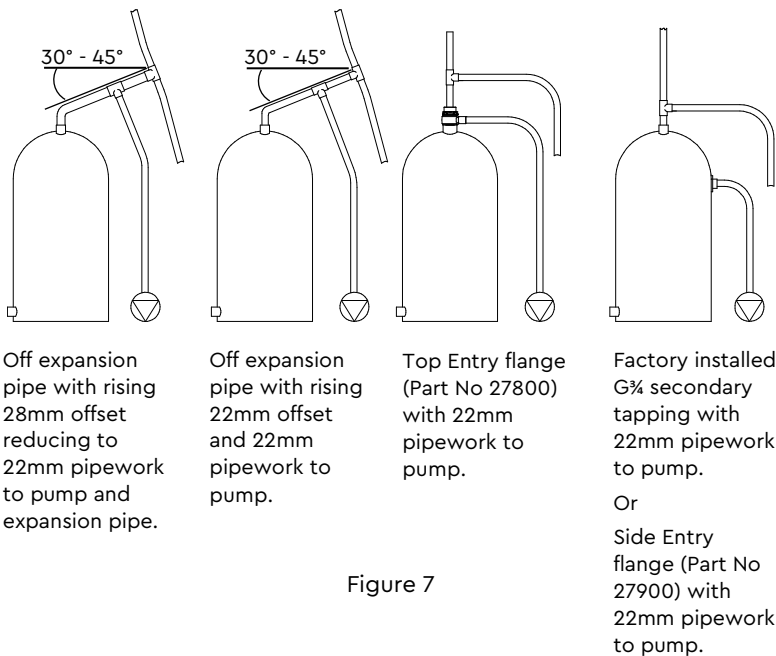

Figure 7
Hot water supply: The pump **must be** supplied with a **dedicated feed** direct from the hot water cylinder or storage tank, ensuring an air free connection to the pump. We recommend the use of either the side entry flange (SE) Part No 27900 or a top entry flange (TE) Part No 27800 see Figure 7.